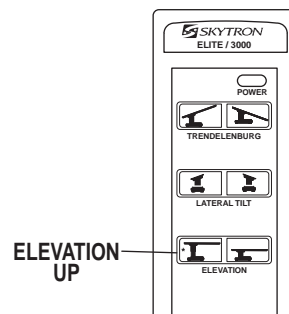

Figure 2-3. Brake System Activation
- a. **Floor Lock/Brake System.** To activate the brakes without affecting table positioning, press the **ELEVATION-UP** button. See figure 2-3. The elevation cylinder will not function until the brakes are completely extended.
Press the BRAKE-UNLOCK button on the pendant control to release the four self-leveling brake feet in order to move the table. See figure 2-3. The brake delay circuit automatically retracts the brake system with just one press of the BRAKE-UNLOCK button. It takes approximately 7-8 seconds to totally release the system.